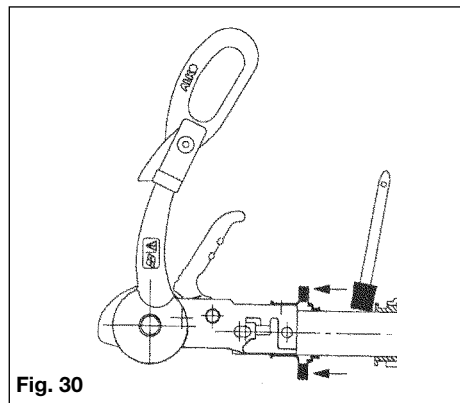

Fig. 30
- Lubricate the drawshaft sleeve via the grease nipples. In addition, push the gaiter forward and grease (DIN 51 825 KTA 3K) the exposed part of the shaft (Fig. 30).